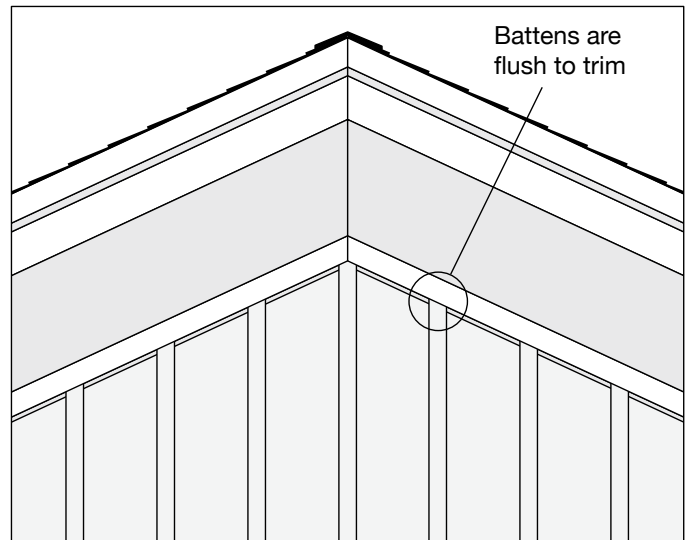

Fig. 6
- When installing TruExterior Trim, choose a thickness that is equal or greater than the thickness of the battens to avoid resting water on the tops of the battens (**Fig. 6**).